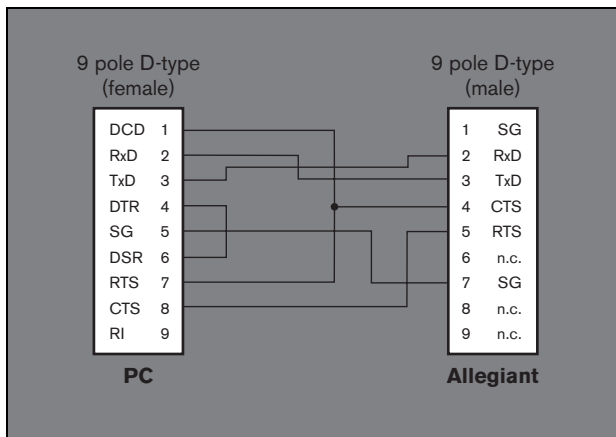

figure 8.21: PC to Allegiant
- 4 Connect COM 2 of the temporary PC to the serial port of the Allegiant video switcher (refer to figure 8.21). The baudrate of the connection must be 19.2k.